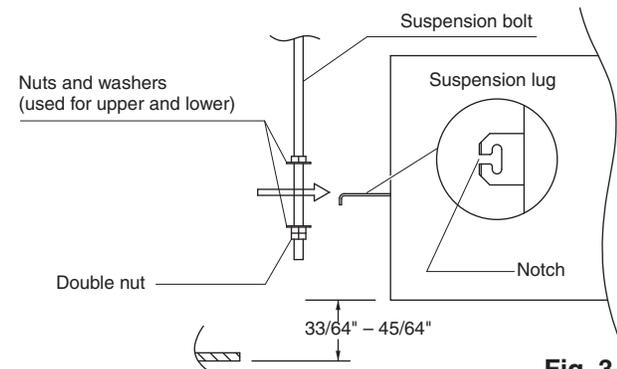

Fig. 3-32
- (3) Thread the 3 hexagonal nuts and 2 washers (field supply) onto each of the 4 suspension bolts as shown in the diagram. Use 1 nut and 1 washer for the upper side, and 2 nuts and 1 washer for the lower side, so that the unit will not fall off the suspension lugs. (Fig. 3-32)
- (4) Adjust so that the distance between the unit and the ceiling bottom is  $33/64$ " to  $45/64$ ". Tighten the nuts on the upper side and lower side of the suspension lug. (Fig. 3-32)
- (5) Remove the protective polyethylene used to protect the fan parts during transport.